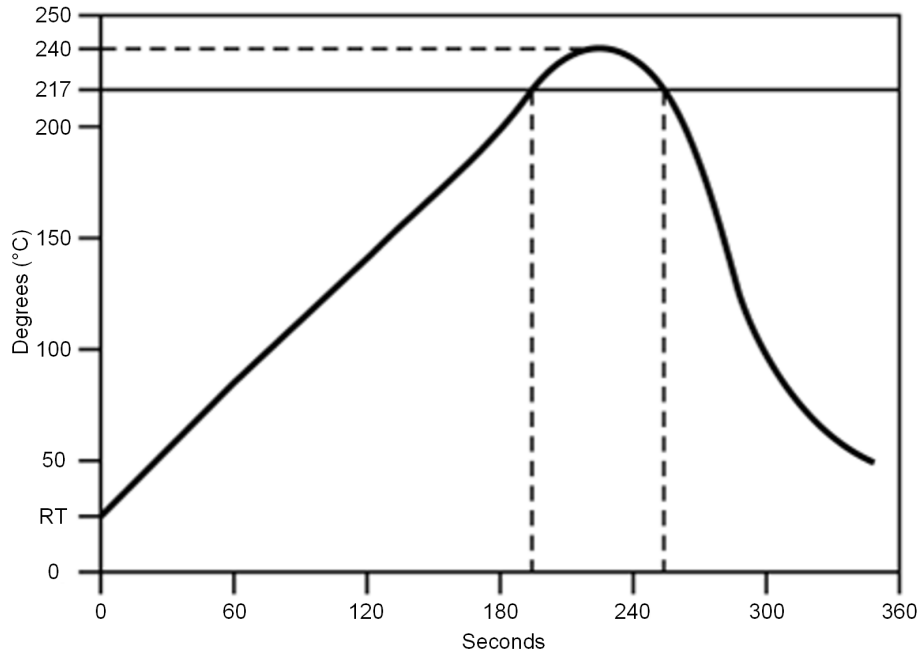

Figure 10-1. Temperature Profile for Evaluation of Solder Heat Resistance of a Component (at Solder Joint)
- Temperature measurement: Thermocouple $d = 0.1\text{mm}$ to 0.2mm CA (K) or CC (T) at soldering portion or equivalent method
- Allowable reflow soldering times: two times based on the reflow soldering profile (see Figure 10-1)
- Temperature profile: Reflow soldering is done according to the temperature profile (see Figure 10-1).